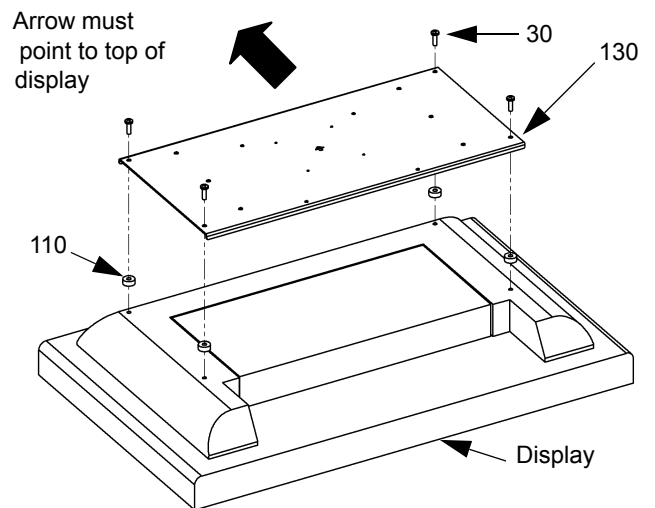

Figure 9: Attach 550mm x 235mm Interface Adapter
1. Select four M6 screws (30) and four spacers (120) from parts bag.
3. Install four M6 screws (30) into the four mounting holes on the interface bracket (130). (see figure 9)
4. Slide 4 retaining spacers (110) onto four M6 screws (30).